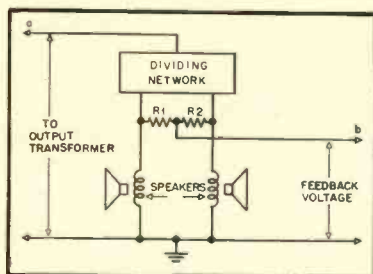

Fig. 2. Circuit arrangement for obtaining feedback voltage from voice coils of two-speaker system.
Fig. 2. Method of adding pre-emphasis to recording characteristic to eliminate a cutter peak, for example. Curve A represents normal response, while curve B represents desired response. The required equalization is represented by the difference between the two curves.
Curve (A) of Fig. 2 depicts a typical cutter response above 1000 cps. It is desired to design a 600-ohm equalizer for a recording characteristic with 10 db of pre-emphasis at 10,000 cps. Ordinarily the low-frequency shelf suppressor could be used, but in this case the cutter peak would be undesirably increased. It is apparent that the rising slope of the peak can be continued to the 10,000-cps, 10-db point; therefore the obvious solution is to design the equalizer with the configuration of (d) with a resonant frequency of 10,000 cps, and an attenuation1 of 10 db. From the curve, the point of half the attenuation, or 5 db, is found at 7000 cps, the design frequency.  $L$  and  $C$  can now be ascertained: